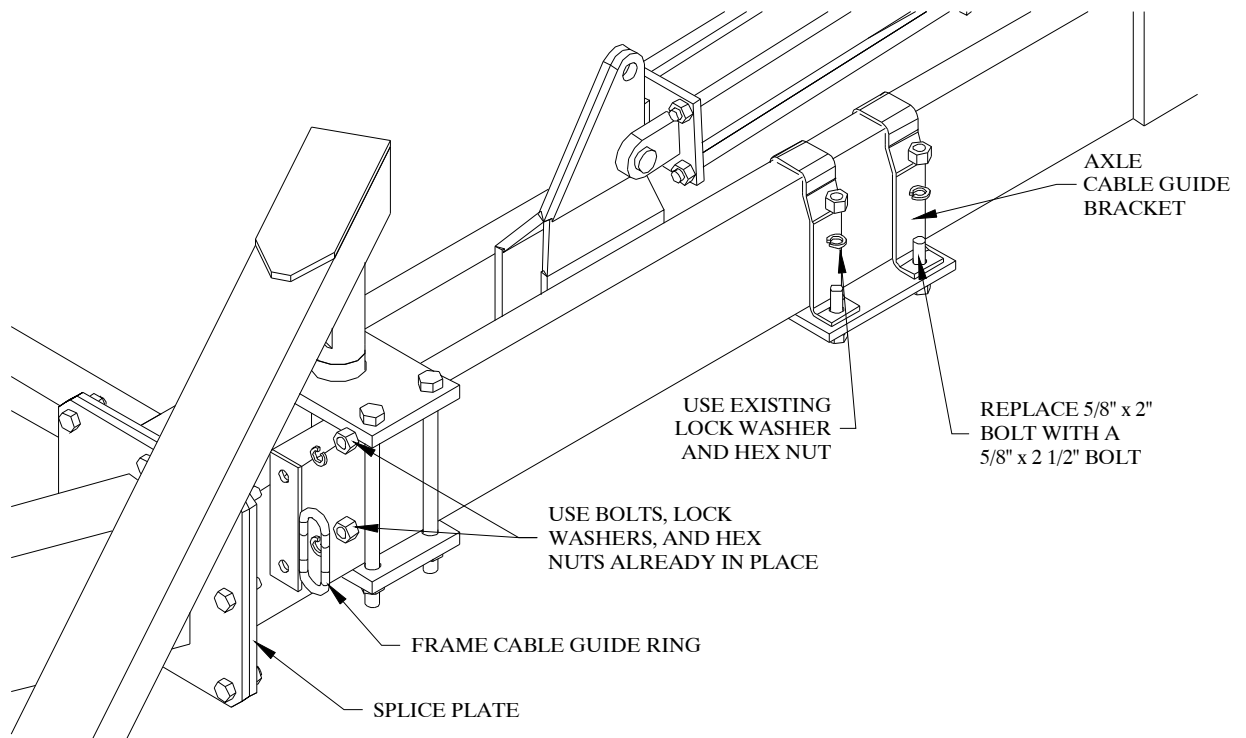

Figure 30
2. Attach the frame cable guide ring to the rear side of the frame splice plate as shown in Figure 30. Use the existing top two bolts, lock washers and hex nuts.
3. Attach the axle cable guide brackets to the axle plate as shown in Figure 30. Replace the $\frac{5}{8}$ " x 2" bolts with $\frac{5}{8}$ " x $2\frac{1}{2}$ " bolts.